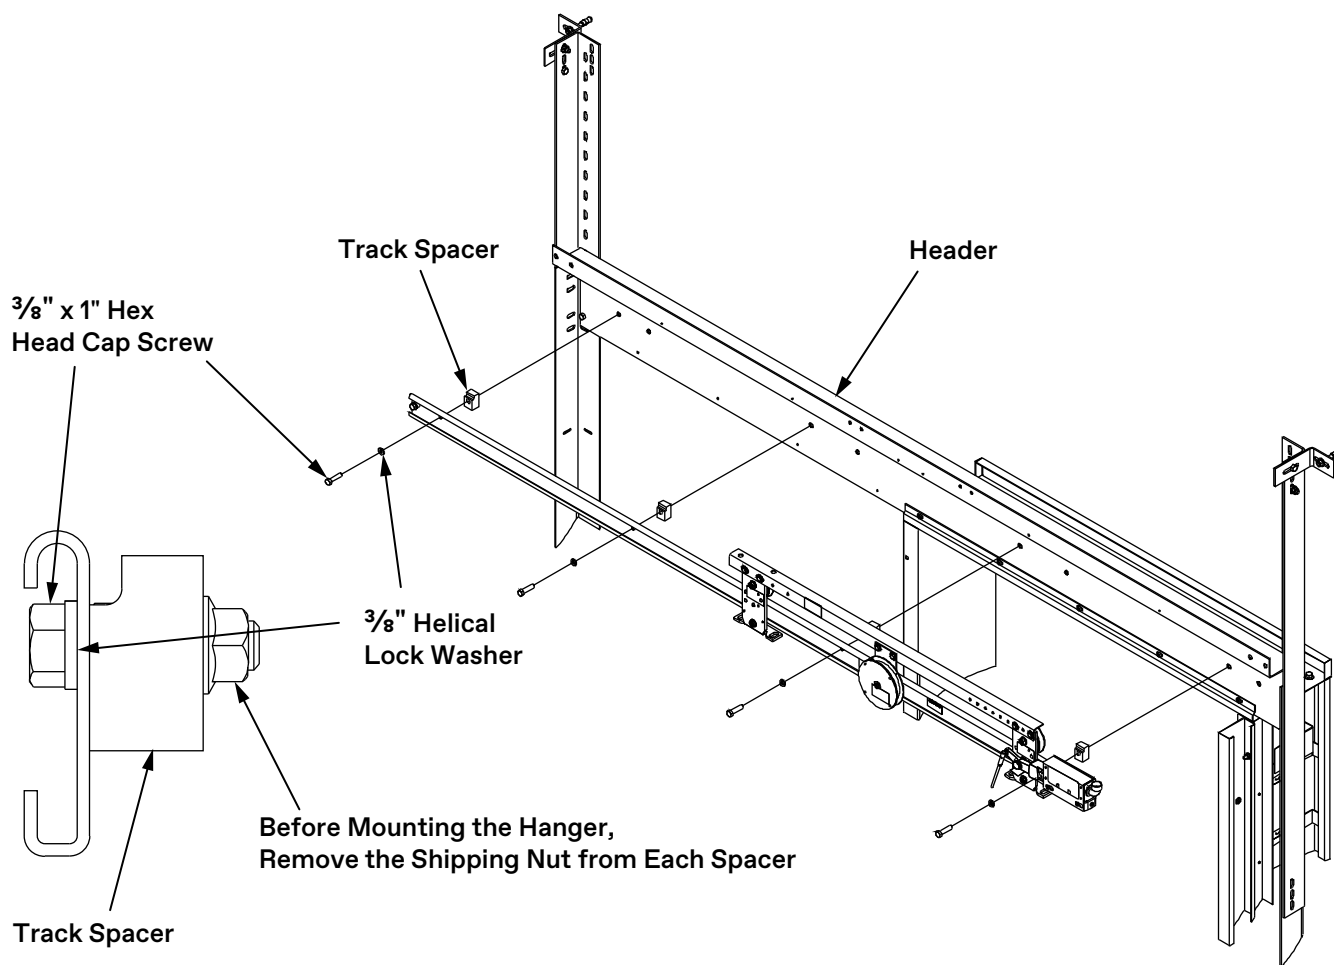

Figure 44 - Install Hoistway Hangers
3. Remove the shipping nuts from the $\frac{3}{8}$ " mounting screws. See Figure 44.